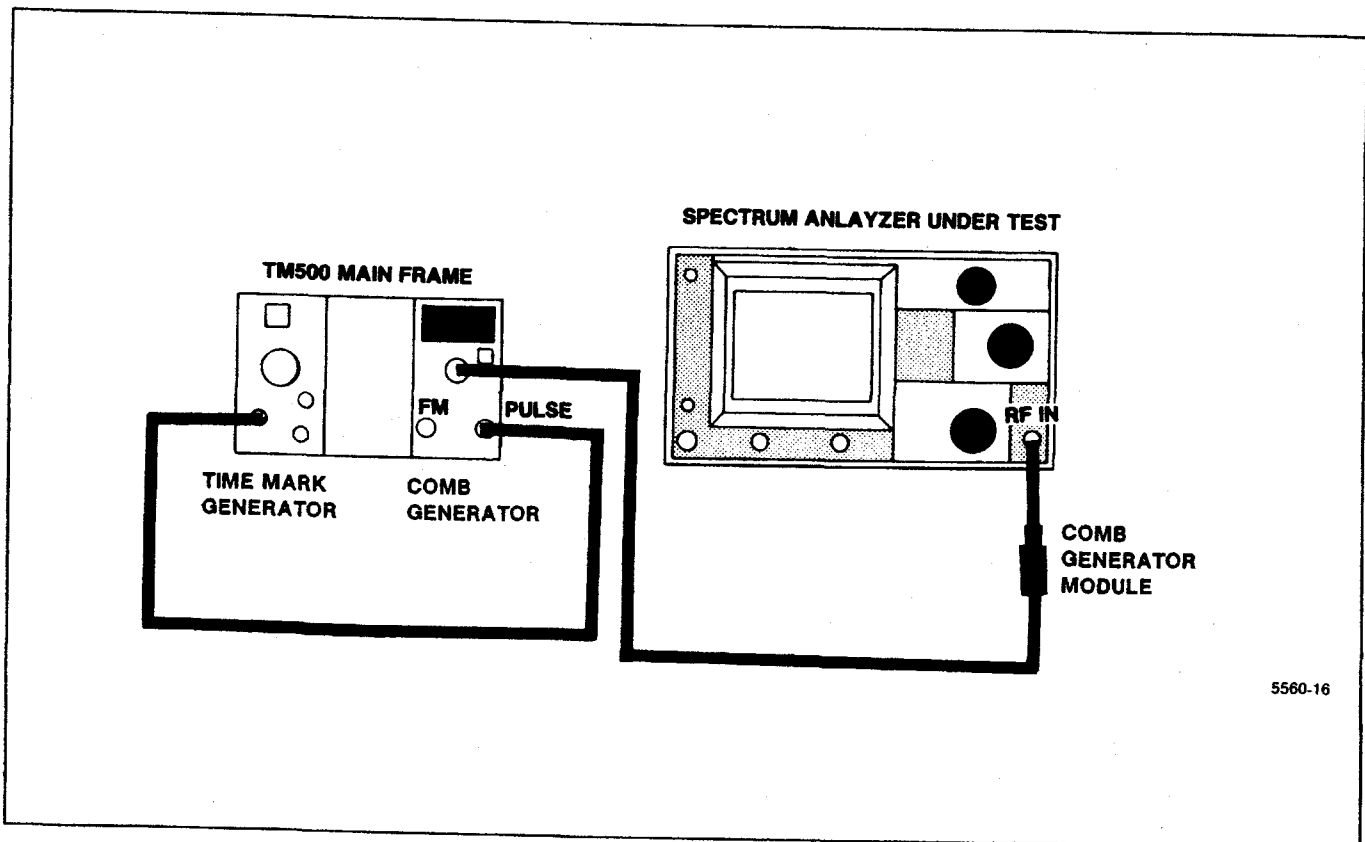

Figure 4-26. Test equipment setup for checking Option 41 Span/Div accuracy.
a. Connect the test equipment as shown in Figure 4-26. Set the Spectrum Analyzer controls as follows: